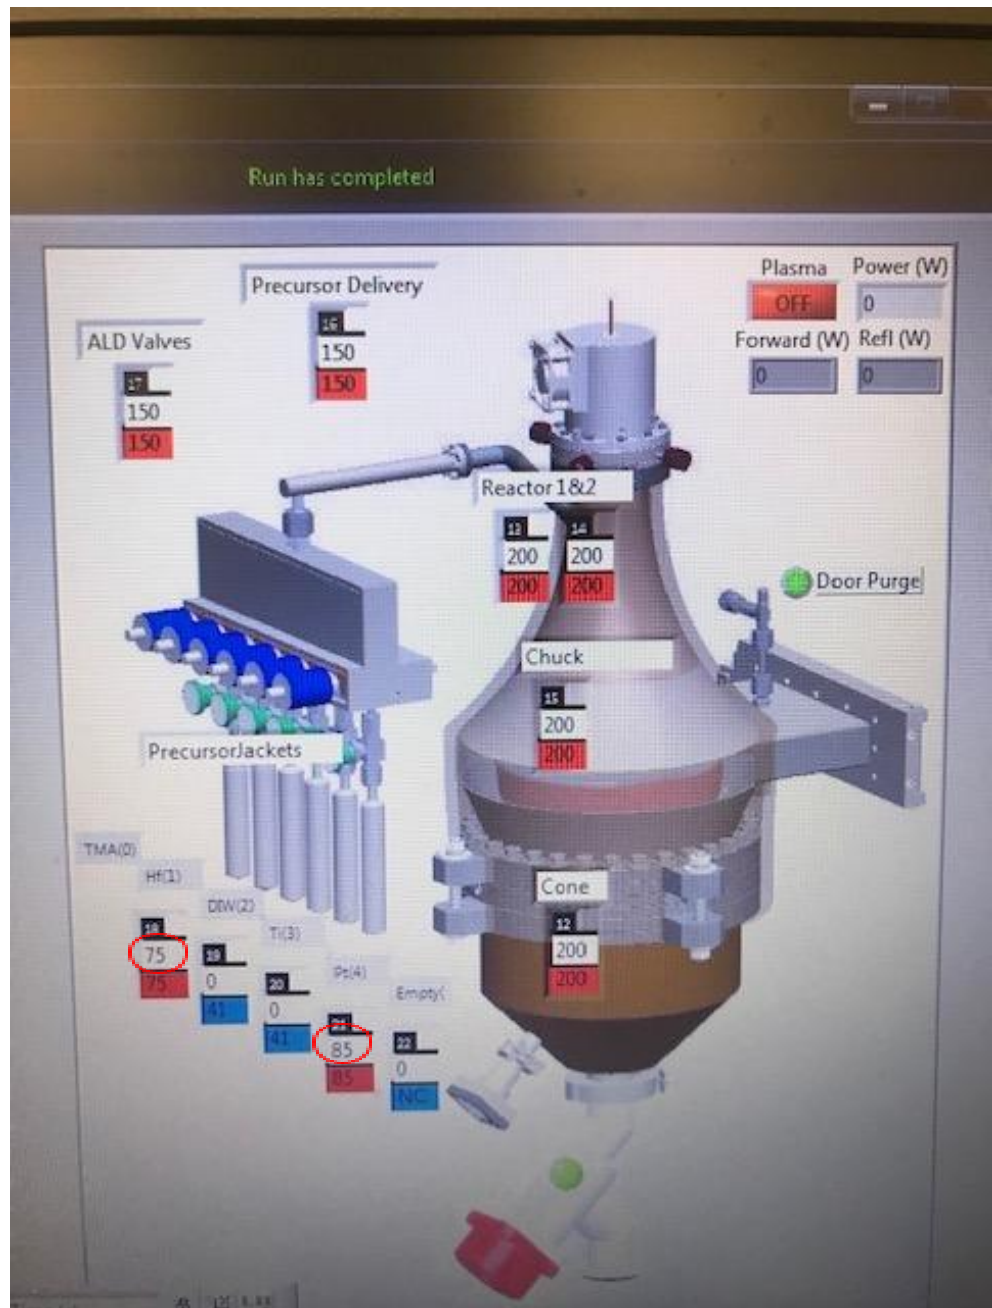

Figure 4: White box indicates temperature setpoint
9.4.3.1. If the temperature needs to be adjusted, select the number white box associated with the precursor. Type in the correct temperature and hit enter. **Figure 4.**